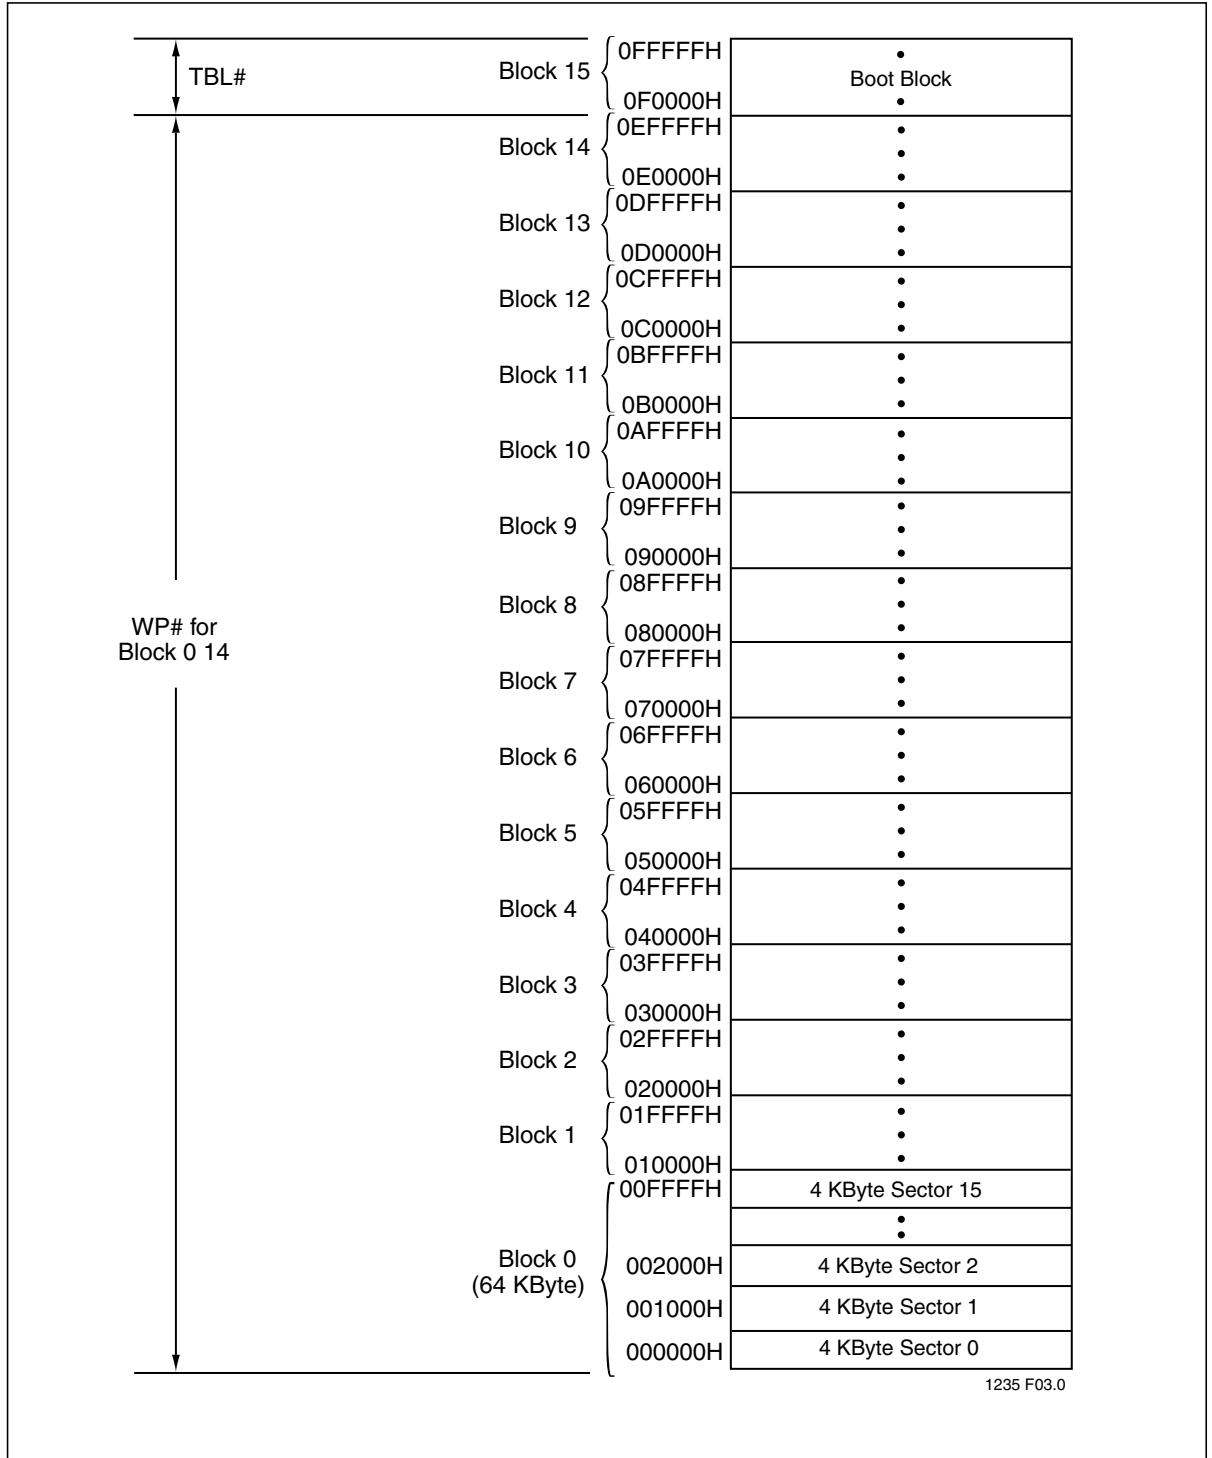

Figure 4: Device Memory Map
The SST49LF080A flash memory devices can operate in two distinct interface modes: the LPC mode and the Parallel Programming (PP) mode. The mode pin is used to set the interface mode selection. If the mode pin is set to logic High, the device is in PP mode. If the mode pin is set Low, the device is in the LPC mode. The mode selection pin must be configured prior to device operation. The mode pin is internally pulled down if the pin is left unconnected. In LPC mode, the device is configured to its host using standard LPC interface protocol. Communication between Host and the SST49LF080A occurs via the 4-bit I/O communication signals, LAD [3:0] and LFRAME#. In PP mode, the device is programmed via an 11-bit address and an 8-bit data I/O parallel signals. The address inputs are multiplexed in row and column selected by control signal R/C# pin. The row addresses are mapped to the lower internal addresses ( $A_{10-0}$ ), and the column addresses are mapped to the higher internal addresses ( $A_{MS-11}$ ). See Figure 4, the Device Memory Map, for address assignments.